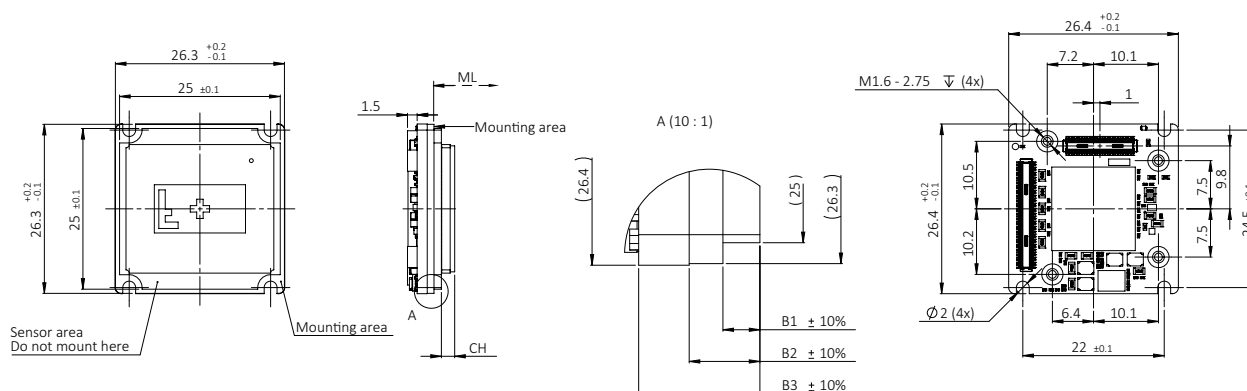

Figure 51: Alvium G1 BL No Mount dimensions
Dimensions that are common between different models are shown in Figure 51, model specific dimensions are listed in Table 75. **Mechanical length (ML)** defines the mechanical distance from the mounting area to the lens mount front flange, without optical filter. **Components height (CH)** relates to the electronic components with maximum height, sometimes the sensor.